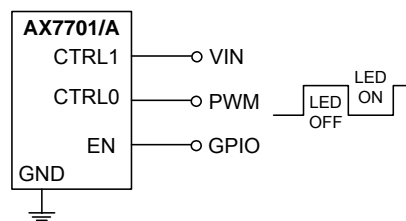
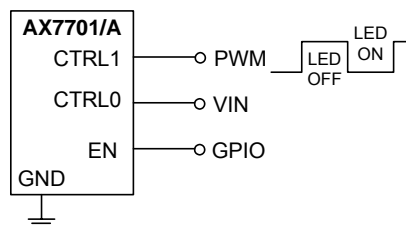
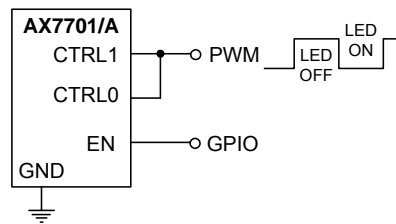

Figure 4. The PWM dimming application circuit for 4WLEDs
Figure 5. The PWM dimming application circuit for 3WLEDs
Figure 6. The PWM dimming application circuit for 2WLEDs
LED current can be controlled by applying a PWM signal to CTRL0 or CTRL1. Table 4 shows the relation between CTRLx and 4 LED's current states. For an example, as the CTRL1 is pulled logical high and CTRL0 receives a PWM signal, then, four LEDs will be dimmed synchronously. Here, the PWM signal setting the LED's current ON/OFF can achieve the average LED's current which in design. The application circuit is shown in Figure 4. Figure 5, and Figure 6 show 3WLEDs and 2WLEDs PWM dimming application circuit, respectively. During the time of PWM signal logical low, the current is a fixed value and setting by RSET resistor. So the average LEDs current can be approximated as Equation (3).